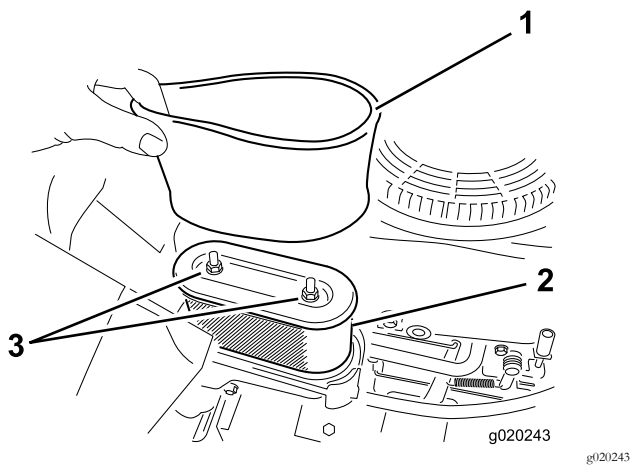

Figure 28
4. Carefully remove the foam and paper filter elements from the air-cleaner housing (Figure 28).
1. Install the foam filter onto the paper filter (Figure 28).